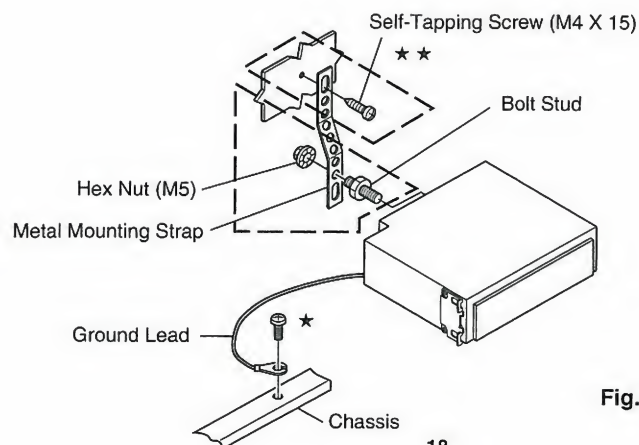

Fig. 4
- Should now be securely, your unit should be secure in place. If you wish to reinforce the installation, use the metal mounting strap supplied and follow the procedures shown in Fig. 4.